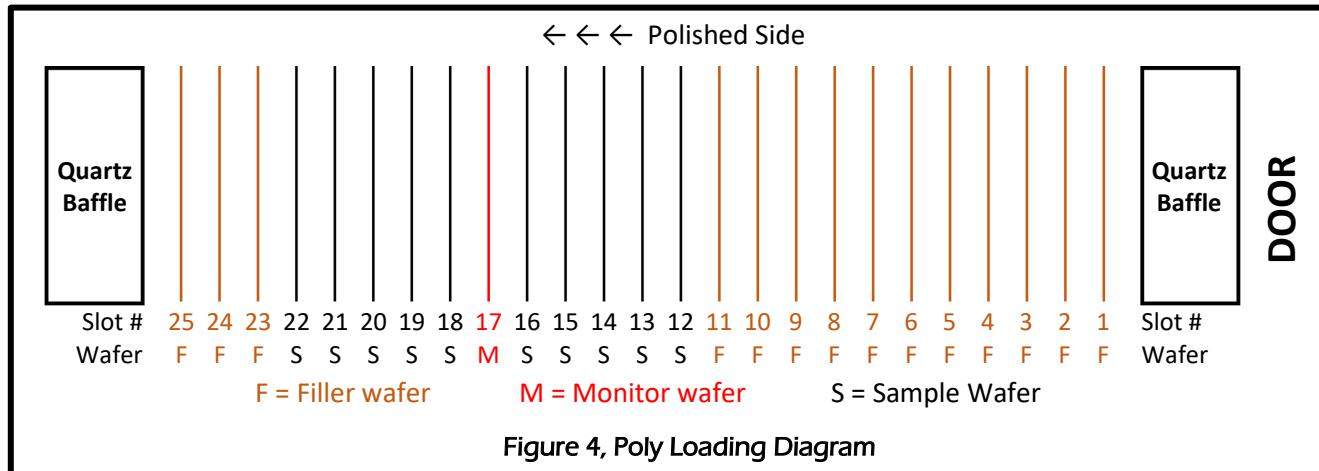

Figure 4, Poly Loading Diagram
- 8.4.2.5.1 Load a monitor wafer onto the boat in slot 17 (see **Figure 4, Poly Loading Diagram**).